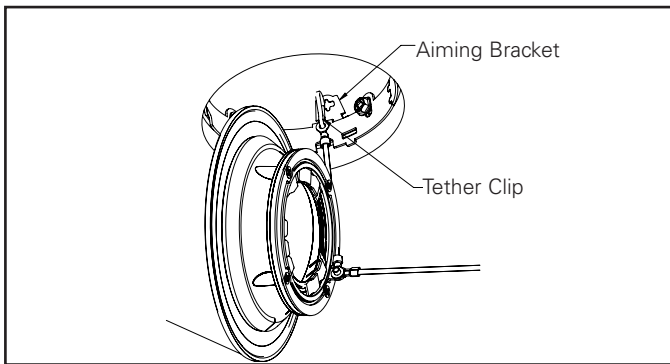

Figure 21.
5. Attach trim tether clip to aiming bracket (Figure 21).